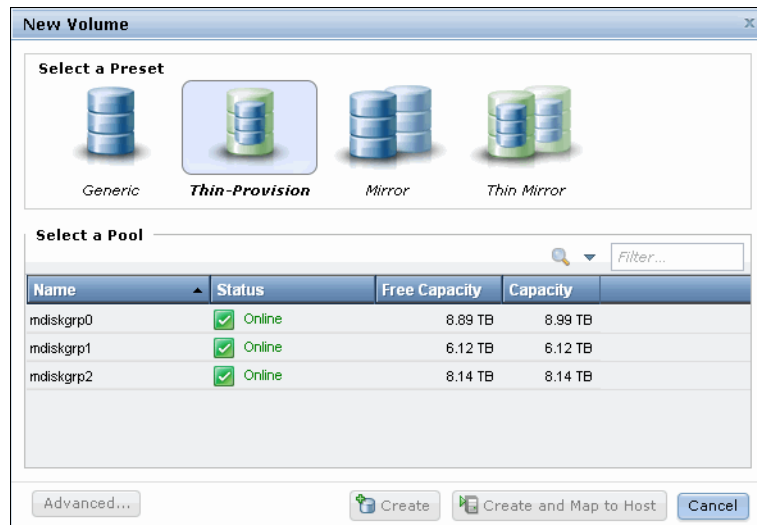

Figure 5-7 Create a thin-provisioned volume
1. Select **Thin-Provision**, as shown in Figure 5-7.